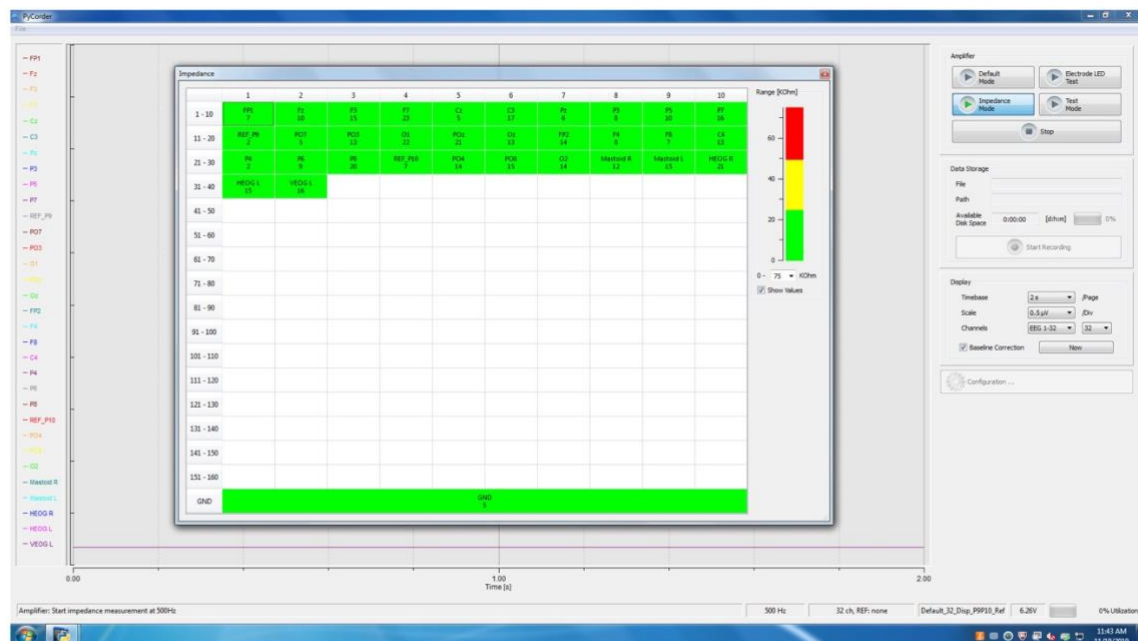

Figure 8. Example of impedance mode before (panel A) and after electrode adjustment (panel B).
8. Manually set the impedance threshold to “75.” This will ensure that any electrodes over 50 k Ω turn red (see Figure 8).